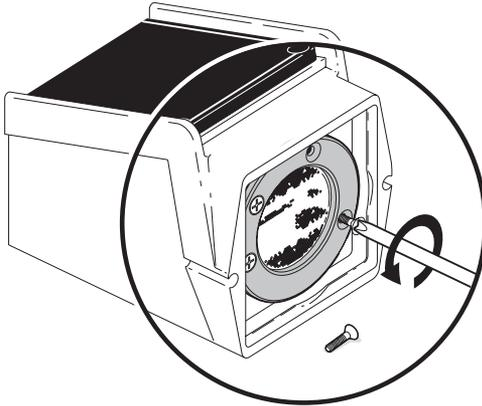

Figure 8-2. Remove Screws, Retaining Ring, and “O”-ring
2. Remove the four screws and the black retaining ring. Remove and discard the “O”-Ring (Figure 8-2 on page 8-4).